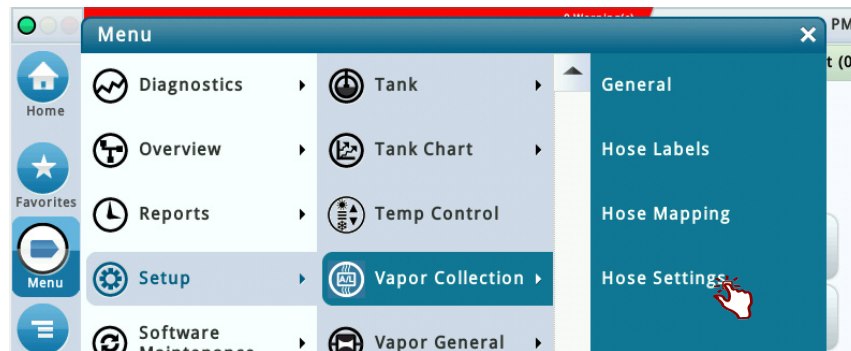
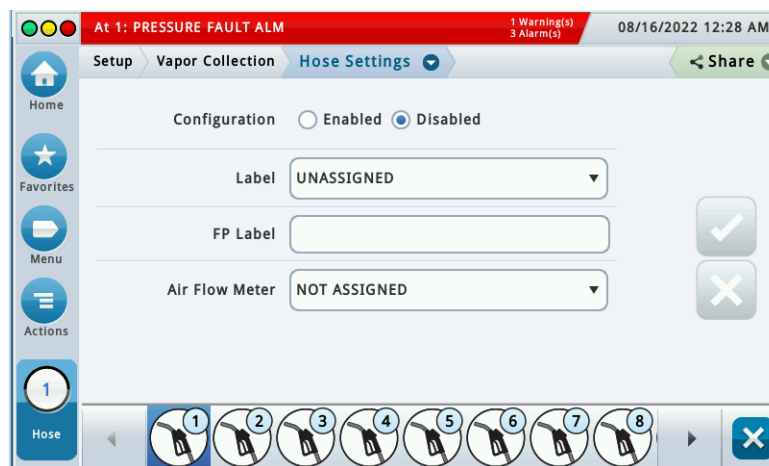

Figure 14. Accessing Vapor Collection Hose Settings Setup Screen
Figure 15. Vapor Collection Hose Settings Setup Screen
1. Touch Vapor Collection in the Crumb path to return to the Vapor Collection setup screen (Figure 14). Touch Hose Settings to access the Vapor Collection Hose Settings setup screen (Figure 15).